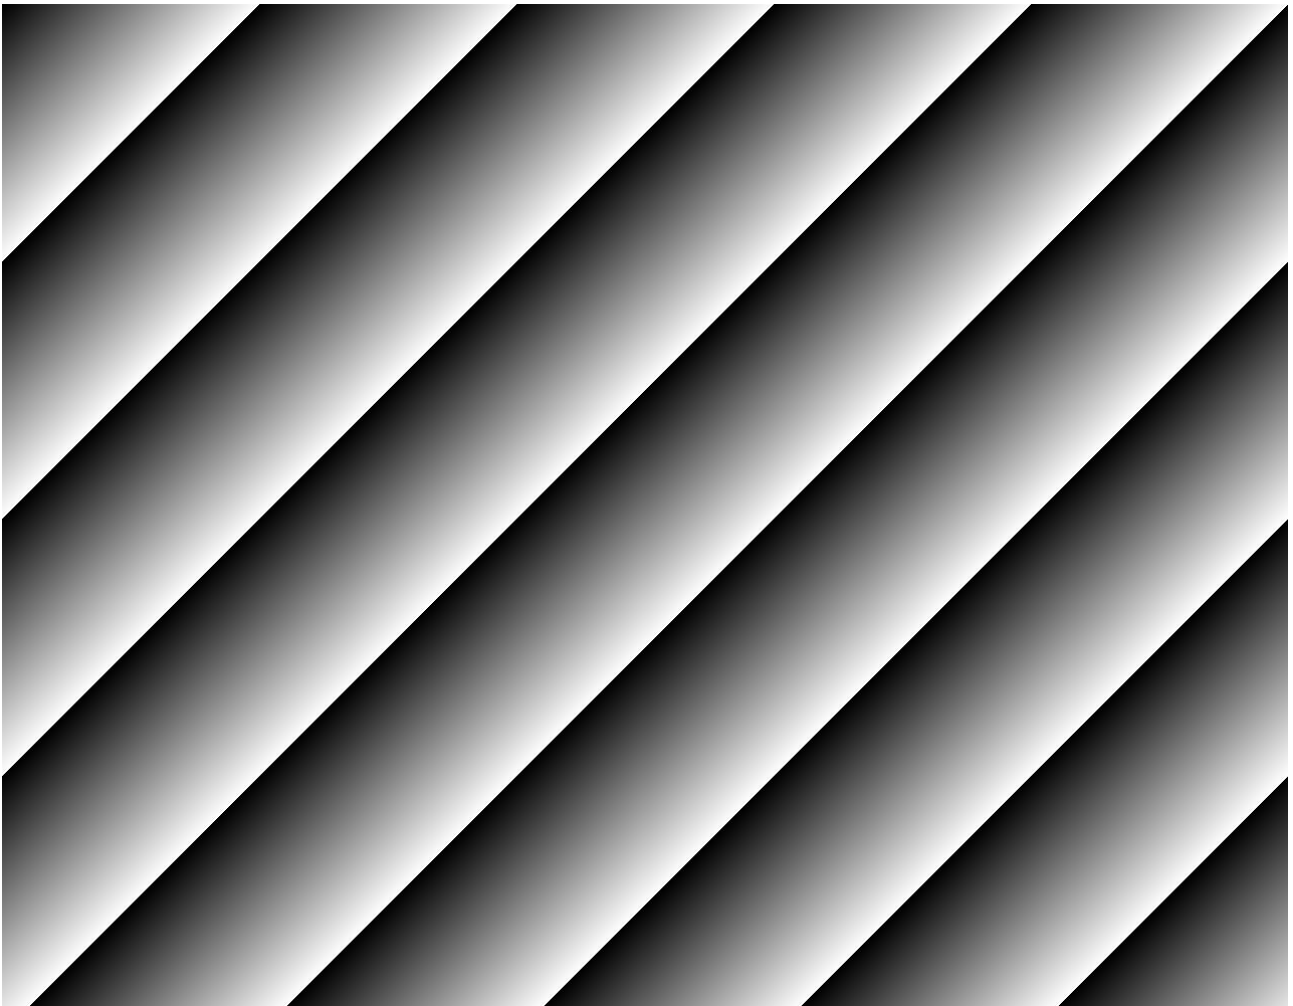

Figure 16 : Diagonal pattern
5. Diagonal ramp – a gray scale diagonal gradient as shown in Figure 16.